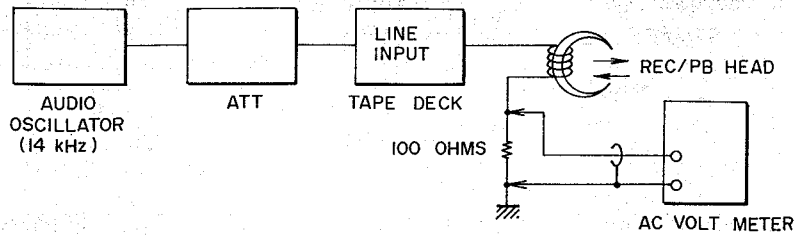

Fig. 22 Instruments Connection
7. Stop recording bias oscillator while making Rec Peaking Adjustment (Refer to Figs. 22, 23).